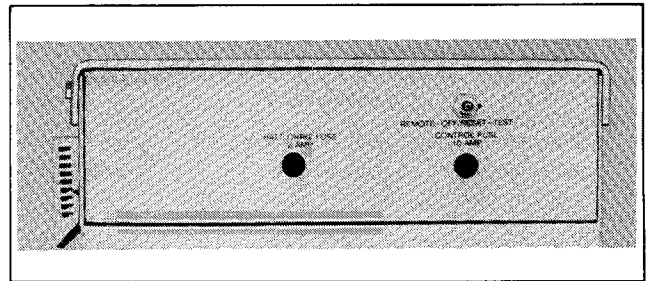
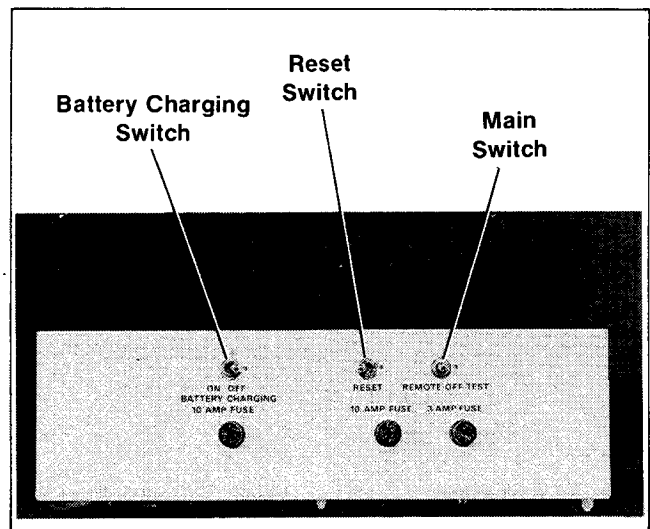
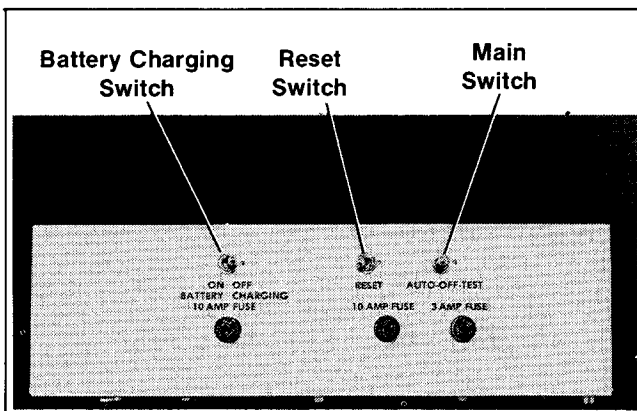

Figure 2-1. Remote Controller, Relay Circuitry
Figure 2-2. Remote Controller, Solid State Circuitry
Figure 2-3. Automatic Controller, Solid State Circuitry
1. Open manual fuel shut-off valve (if equipped). Place generator set master switch to REMOTE position. See Figure 2-1 for relay model or Figure 2-2 for solid state model.
1. Place controller master switch in AUTO position. See Figure 2-3.
1. Open manual fuel shut-off valve (if equipped). Place generator set master switch to TEST position. See Figure 2-1 for relay model, Figure 2-2 for remote solid state model, or Figure 2-3 for automatic solid state model.